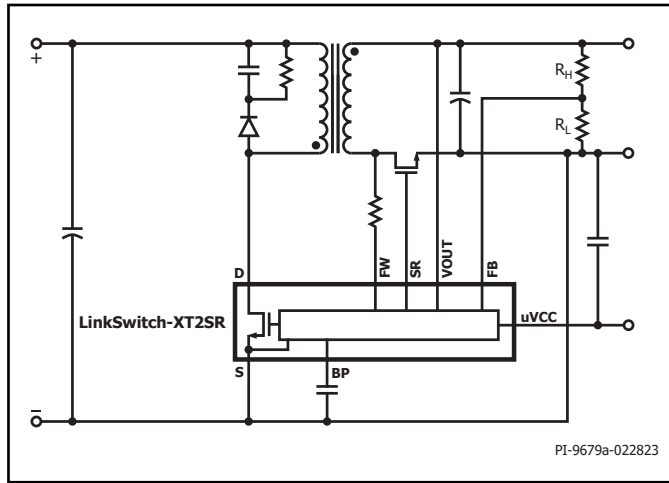

Figure 8. Typical Application with LinkSwitch-XT2SR with External Feedback Resistors for Non 5 V Design.
*Adjustable with optional external feedback resistors (see Figure 8).